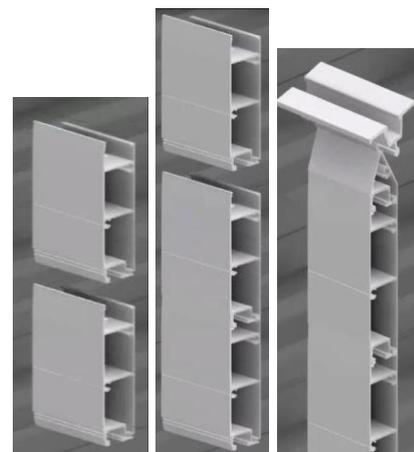

Figure 4.2D: Click in and secure Pro Heightening Element and Module Support
- I. Add Pro Heightening Elements on top of the rear pair of Rapid Con 90. These components are modular and interconnect by locking in, once inserted from the top at an angle, as shown in Figure 4.2D.
- II. Add the Module Support on top of the last elevation element which is secured by inserting it from the top at an angle following the same process as Pro Heightening Element, as shown in Figure 4.2D.